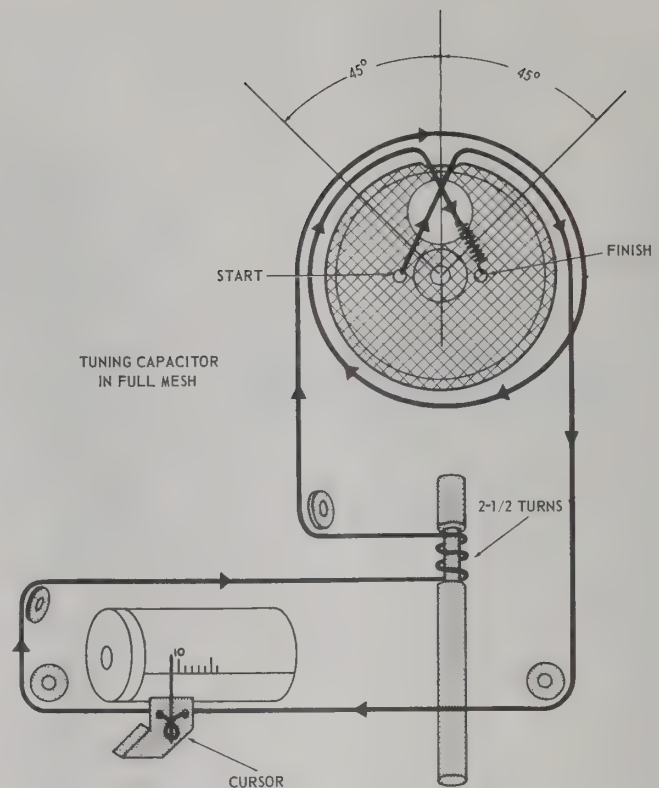

Figure 5-6. Dial Stringing
5-40. The dial stringing should be done with the front panel disassembled, but not disconnected from the instrument. Refer to Figure 5-6 and proceed as follows:
e. Thread the dial cord around the small left side pulley, the angle pulley, etc. as shown in Figure 5-6.